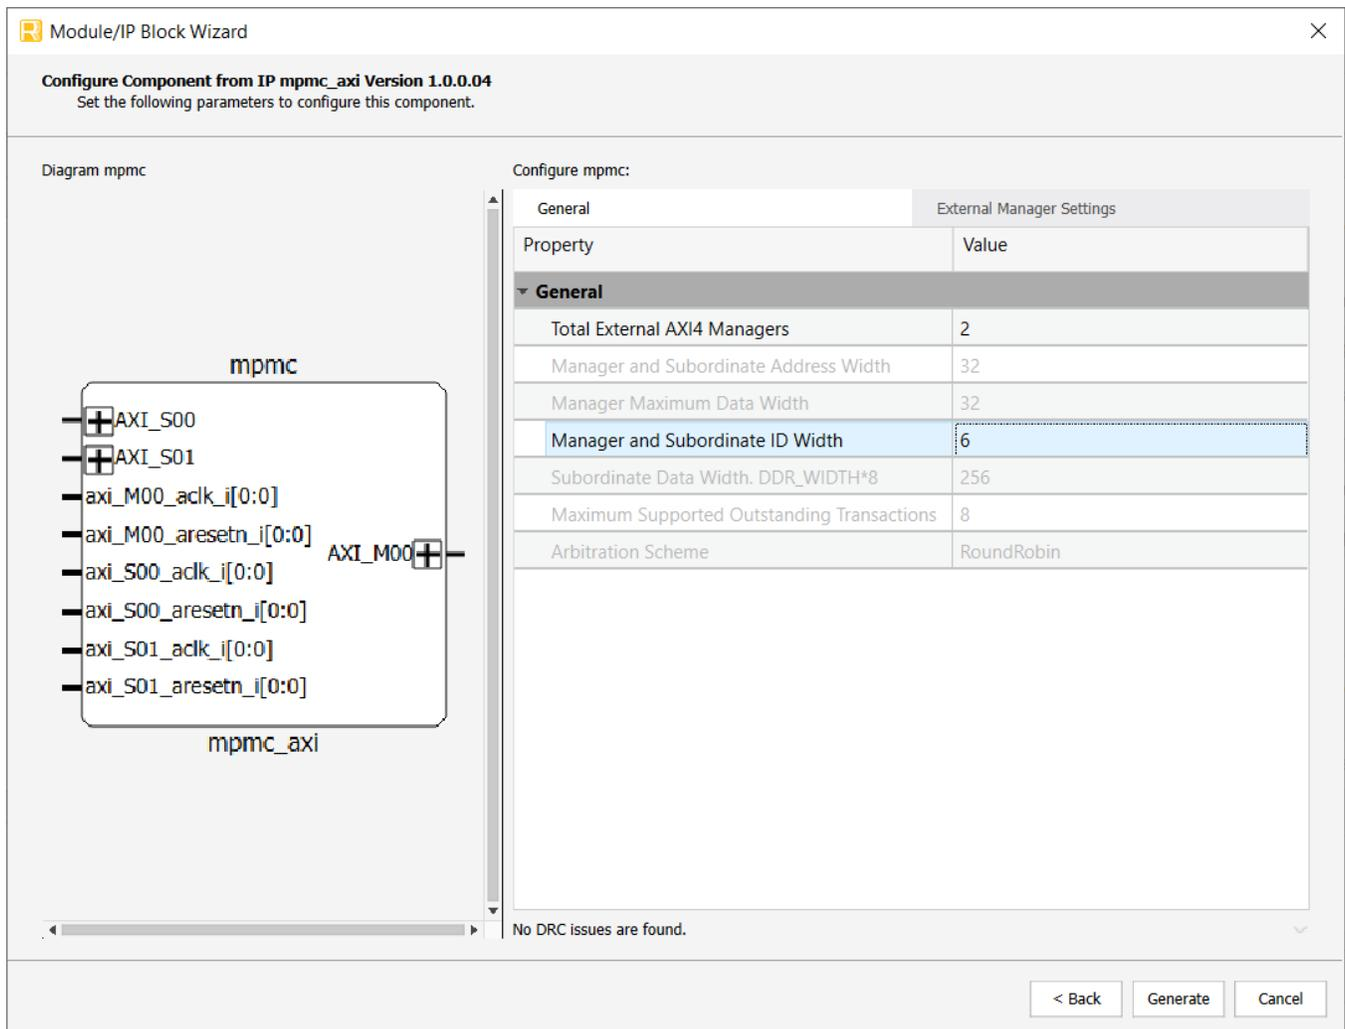

Figure 6.6. IP Configuration
- In the next **Module/IP Block Wizard** window, customize the selected AXI4 MPMC IP using drop-down lists. Figure 6.6 shows an example configuration of the AXI4 MPMC IP. For details on the configuration options, refer to the IP Parameter Description section.